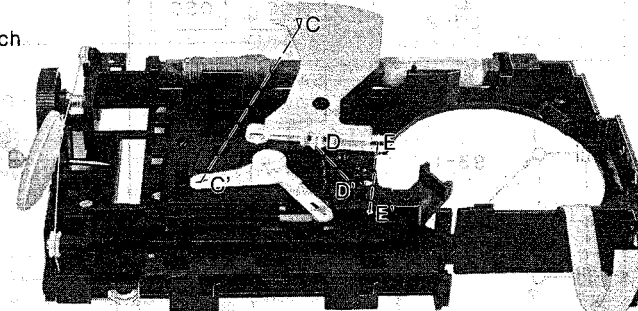

Fig. 12
*4 During installation, simultaneously fit in C and C', D and D', and E and E'. (Fig. 12).